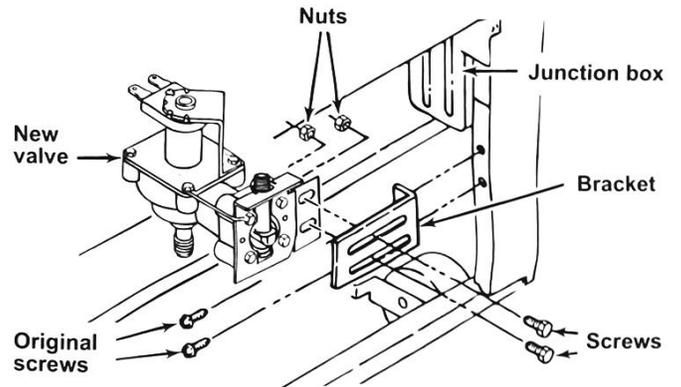

Figure 8
14. For horizontal mounted valves, install the bracket and the new water valve as shown in Figure 8.
15. Install bracket with the two (2) original screws, as shown in Figure 8.
16. Install the new vertical mounted valve as shown in Figure 8 using the two nuts and screws.